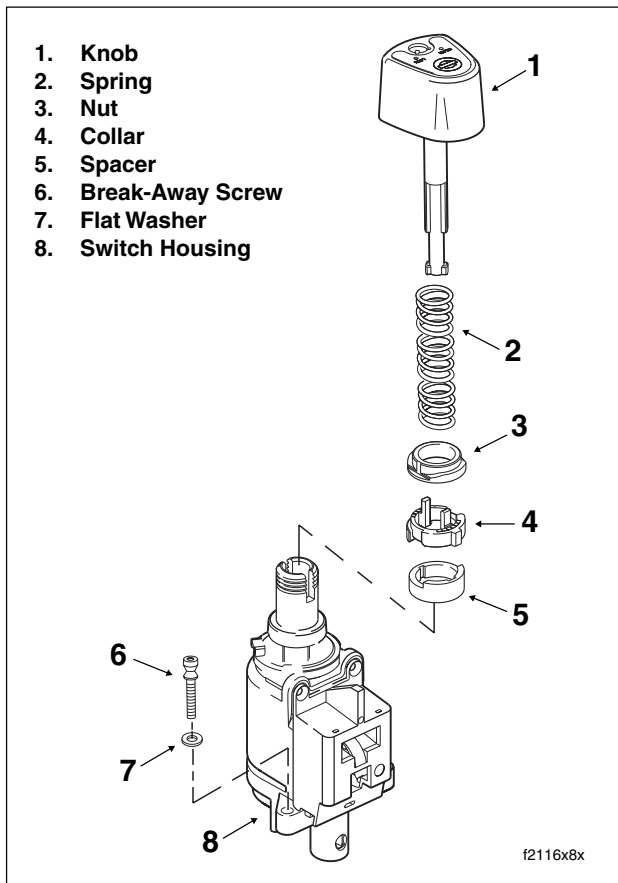

Figure 8-70. Ignition Switch Assembly (International)
6. Install spacer over threaded post of ignition switch housing until it contacts switch position plate. Orient spacer so that the widest side is forward and the inside tabs fit in slots of post. See Figure 8-70.